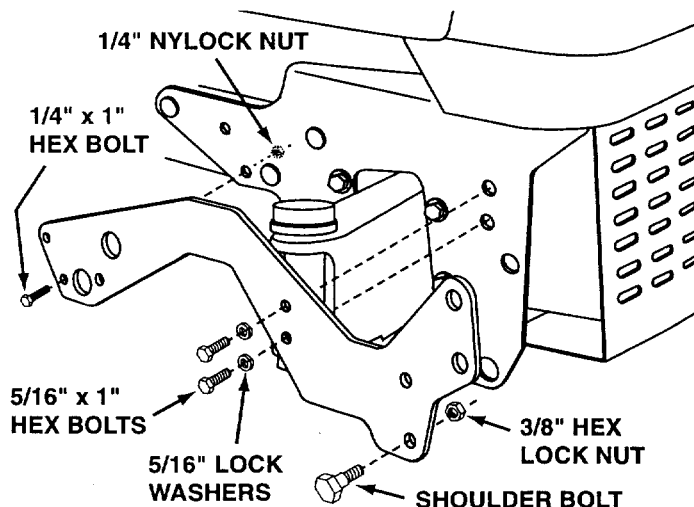

Figure 2
3. Attach a frame bracket to each side of the tractor frame. Use two 5/16" x 1" hex bolts and 5/16" lock washers in the holes shown in front of the axle. Use a 1/4" x 1" hex bolt and 1/4" nylock nut in the rear hole as shown. **Tighten carefully** to avoid stripping threads in tractor frame. See figure 2.
4. Assemble a shoulder bolt and a 3/8" hex lock nut to the lower hole in each frame bracket as shown in figure 2.